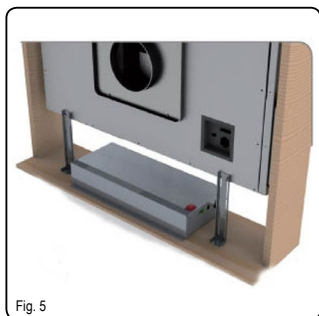
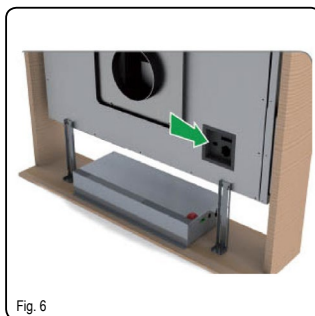

Fig. 5
Fig. 6
8. Place the electrical box in an easily reachable area for future maintenance and service operations (Fig.5). Connect the 3 connections (9 pole connector for the actuator control and safety control, 4 pole connector for the neon lamp turn on and push button connector) (Fig.6).